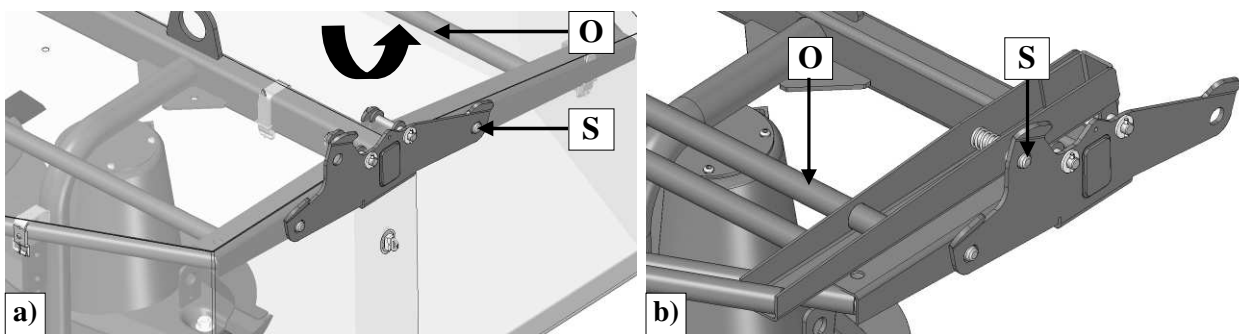

Fig. 11. Setting front guard for transport
Before moving the mower to transport position lift the mower's front guard (O) up and secure it with pin (S) (Fig. 11) on the guard's right side. The guard, if not lifted up and improperly protected, may cause serious damages to the mower's guards or tractor's parts, e.g. rear lights.